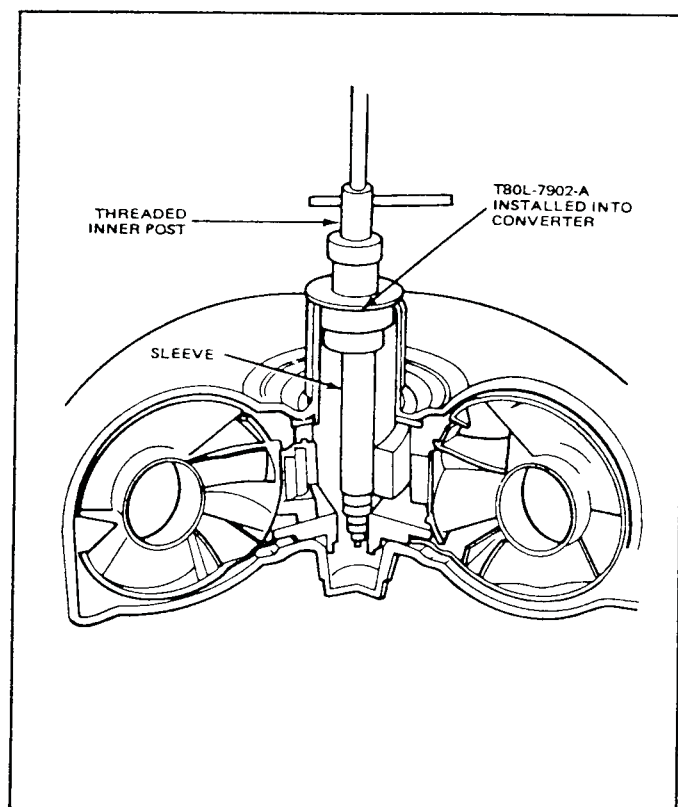

FIG. 32 End Play Checking Tool Installed
1. Insert Tool T80L-7902-A into the converter pump drive hub until it bottoms (Fig. 32).
2. Expand the sleeve in the turbine spline by tightening the threaded inner post, (Fig. 32), until the tool is securely locked into the spline.